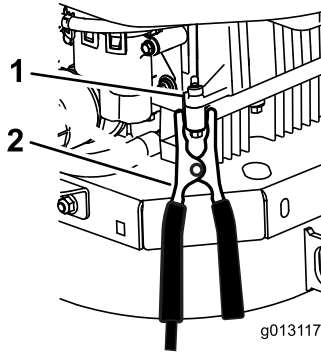

Figure 67
6. Make the final connection on the engine block of the stalled vehicle (not to the negative battery post) **away from the battery and stand back** (Figure 67).